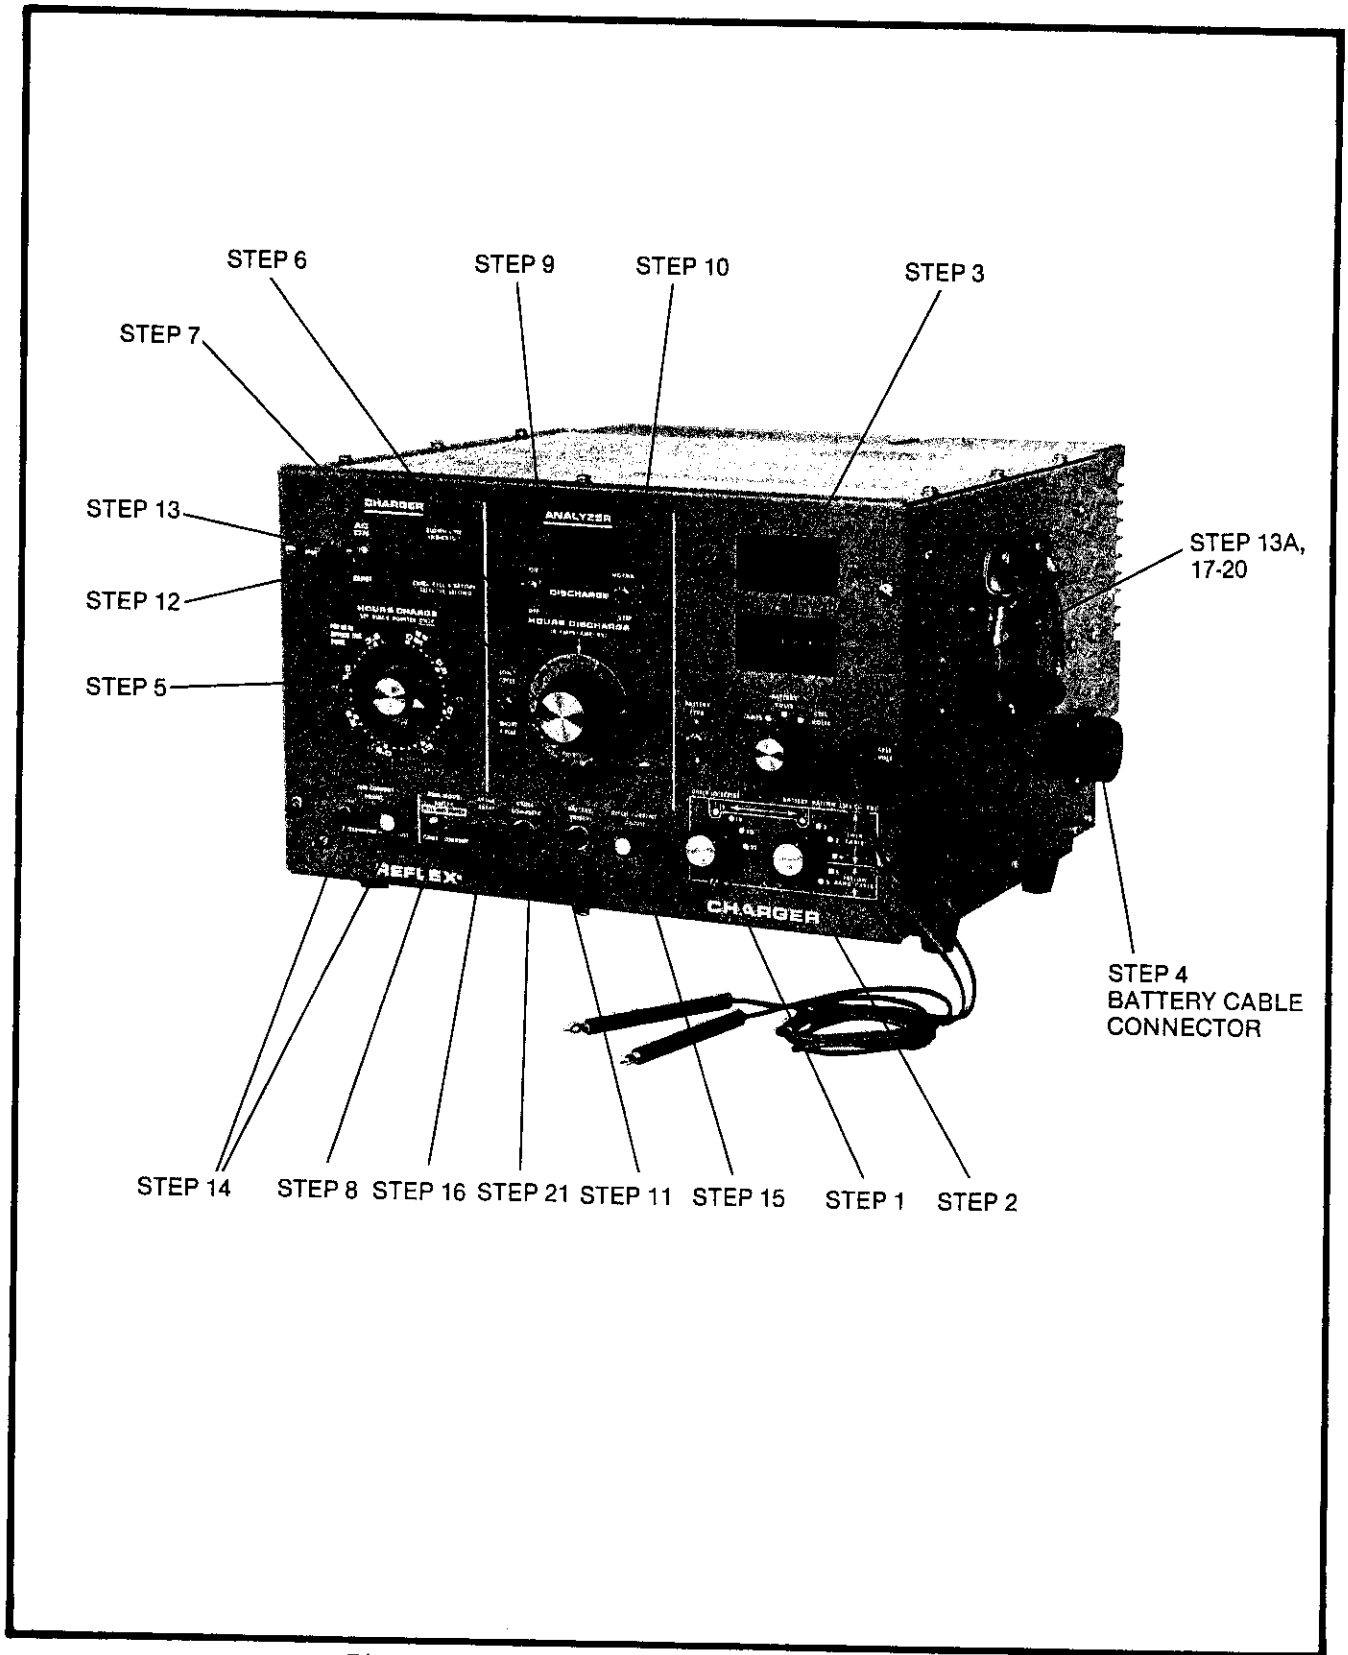

Figure 3-1. Standard Operating Procedure
- 3-11. A step-by step procedure for charging any ni-cad battery is given and illustrated in Figure 3-1. The specific parameters and control settings for most popular battery makes and types are provided in Table 3-3. Perform the procedure of Figure 3-1 while observing the following: